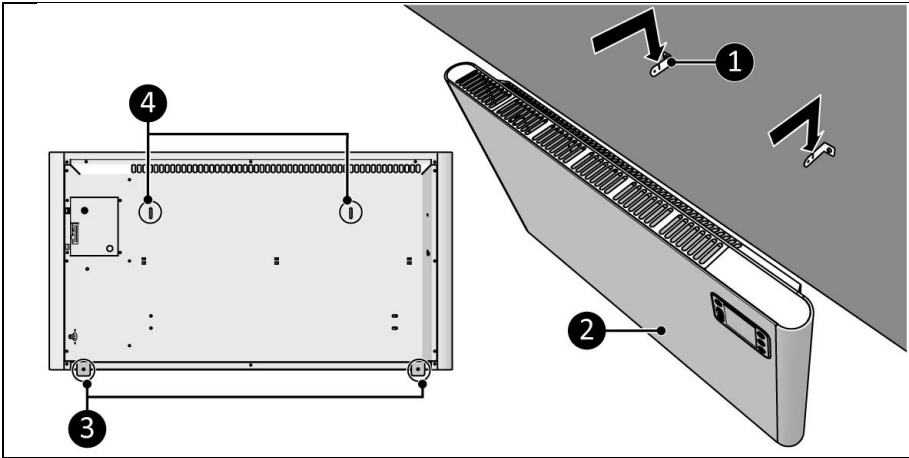

Figure 12
9. Place the bracket holes (Figure 12, pos. 4) over the wall brackets (Figure 12, pos. 1).
10. Let the device (Figure 12, pos. 2) drop into the openings of the wall brackets (Figure 12, pos. 1).
11. Use the device brackets (Figure 12, pos. 3) to mark the bottom hole position on the wall.
12. Remove the device from the wall brackets (Figure 12, pos. 1).
14. Place the device (Figure 12, pos. 2) back on the wall brackets (Figure 12, pos. 1).